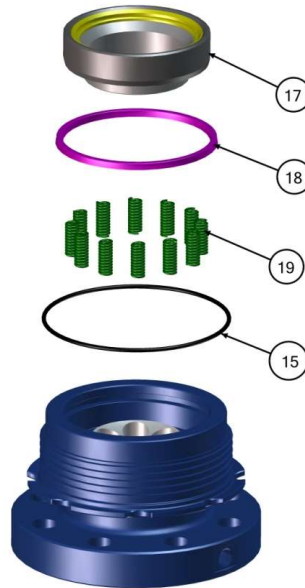

FIGURE 20
- 6) Install the o-ring (15) (**FIGURE 20**) over the threads of the tailpiece and against the scalloped flange.
- 7) Insert the compression springs (19) into the spring holes.
- 8) Install the internal polypak (18), with the sealing lip facing downward. For 4" valves install the external polypak and o-ring on the seat carrier.
- 10) Install the seat carrier assembly (17) into the tailpiece. Use a combination of down force and rotation to assist installation.